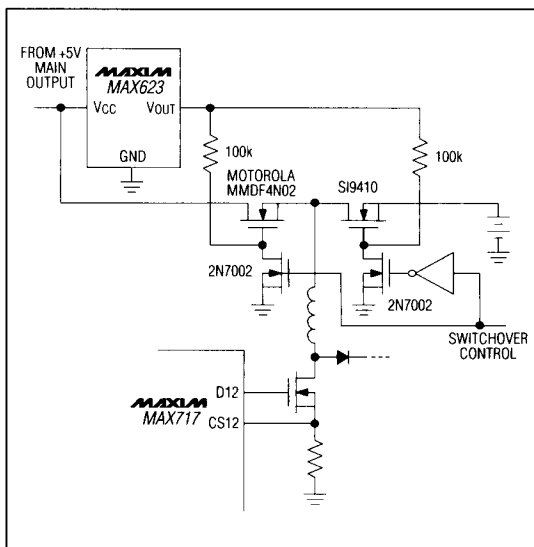

Figure 5. High-Side MOSFET Switch Powers Auxiliary +12V Supply
2) Power the auxiliary supply from the main output in linear-regulator mode, but power it from the battery when the DC source is absent. This provides the best overall efficiency, but requires a relay or MOSFET switch to make the switchover (Figure 4). In most applications, the battery voltage is too low to use P-channel devices for the switchover, but a high-side supply, such as the MAX623 charge-pump regulator (Figure 5), works well with N-channel switches. Switchover can also be accomplished with special AC-DC adapter plugs and jacks with built-in mechanical switches.